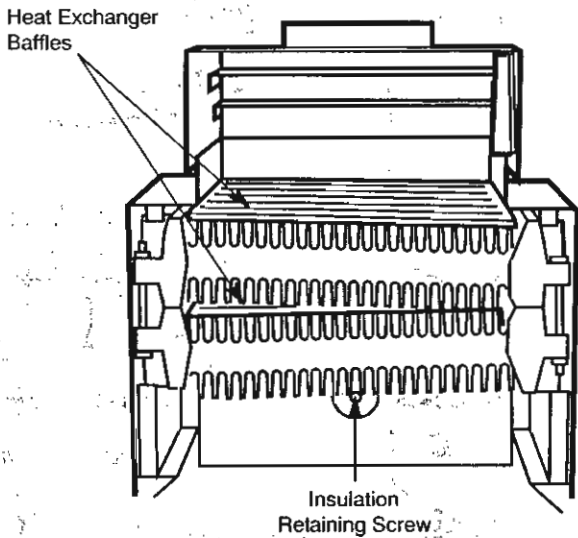

Fig. 11. Connections
9. Slide out the heat exchanger baffles, noting their positions (Fig. 11).
10. Remove the rear insulation by removing the retaining screw and washer (Fig. 11).
Brush out the bottom of the combustion box and then replace the insulation panels and the heat exchanger baffles, ensuring the one with the turned up edge is on top (Fig. 11).
### Insulation in Combustion Chamber (Fig. 11)